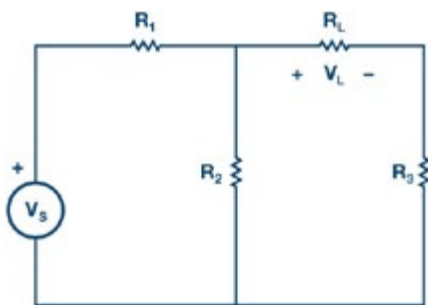

Figure 7: Circuit for maximum power theorem.
Construct the circuit as in Figure 7 using the following values:
d) Calculate the power for each load resistor value using $P_L = V_L^2/R_L$. Then, interpolate between your measurements to calculate the load resistor value corresponding to the maximum power ($P_{L-\text{max}}$). This value should be equal to R_{TH} of circuit in Figure 7 with respect to load terminals.